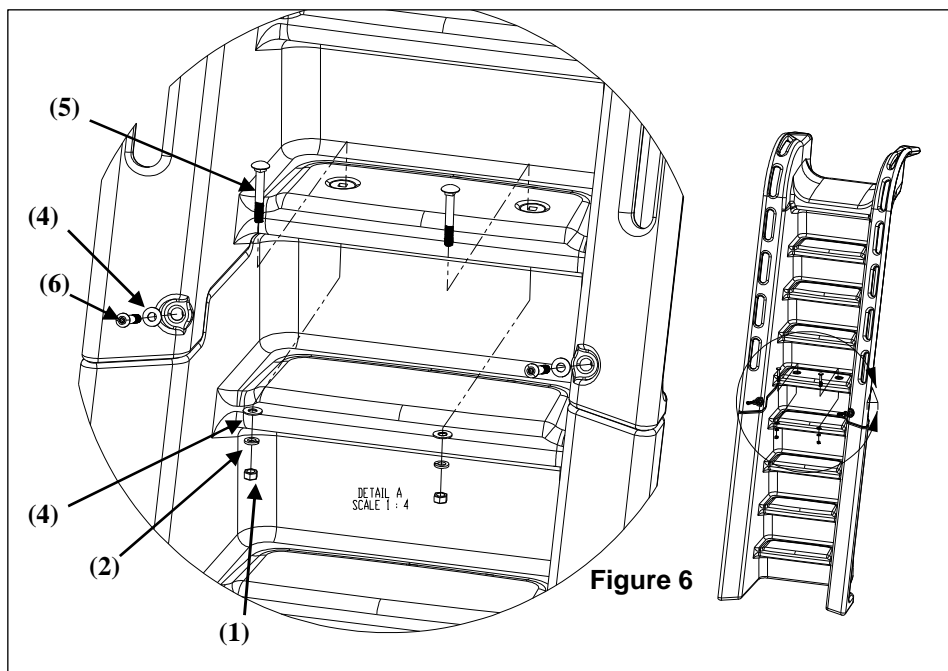

Figure 6
- 5) Assemble the top ladder section and lower ladder section as shown in Figure 6. Insert the two button head cap screws into the threaded inserts as shown in Figure 6. **Do not fully tighten the screws at this point; start the screws into the threaded inserts. Note: Be sure to apply anti-seize to all fasteners to prevent galling.**
- 7) Insert the two carriage bolts into the steps as shown in Figure 6. Tighten the nuts onto the carriage bolt until the lock washer is fully compressed. **Note: Be sure to apply anti-seize to all fasteners to prevent galling.**